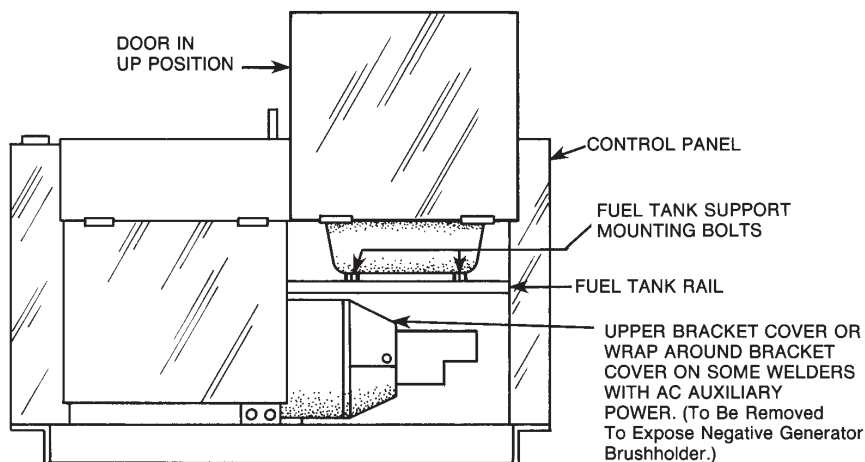

FIGURE 12 – Engine Welder (Left Side).
1. Remove the upper bracket cover or the wrap-around bracket cover on older welders with AC auxiliary power. Also, remove the two fuel tank support mounting bolts on the side opposite the output terminals. See Figure 12. On the SAE-400 (with codes 10601, 10856 and 10884) and all WELD'N AIR, remove the guards mounted on the inside of the front control panel.
NOTE: FOR STEPS 13 AND 14 REFER TO FIGURES 12 AND 14.
13. The negative generator brushholder, exposed when upper bracket cover or wrap-around is removed (see Figure 12), is at the 11 o'clock position when the commutator is viewed from the control panel end of welder. Remove the 5/16 bolt which connects the existing cable to the negative brushholder. Route the #2/0 heavy lead which exists from the bottom of the CV adapter case as shown in Figure 14. Obtain a 5/16 X 3/4 bolt from the hardware sent with the CV Adapter and connect the #2/0 heavy lead which exits from the bottom of the CV Adapter case, along with the cable removed above, to the negative brushholder. The #2/0 heavy lead lug should be between the existing cable lug and the brushholder. Tape the #2/0 heavy lead to the battery lead on welders with DC auxiliary power to support lead. On welders with AC auxiliary power, tape the #2/0 heavy lead to the alternator exciter lead bundle coming from the alternator to support lead where possible.